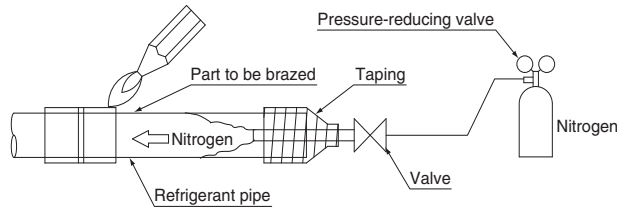

Fig. 5
- When brazing refrigerant pipe, begin working after replacing the nitrogen (\*1) or perform brazing while nitrogen is flowing in the refrigerant pipe (\*2) (Refer to Fig. 5), and at the end made the indoor unit and centralized Branch Selector unit flare connection.